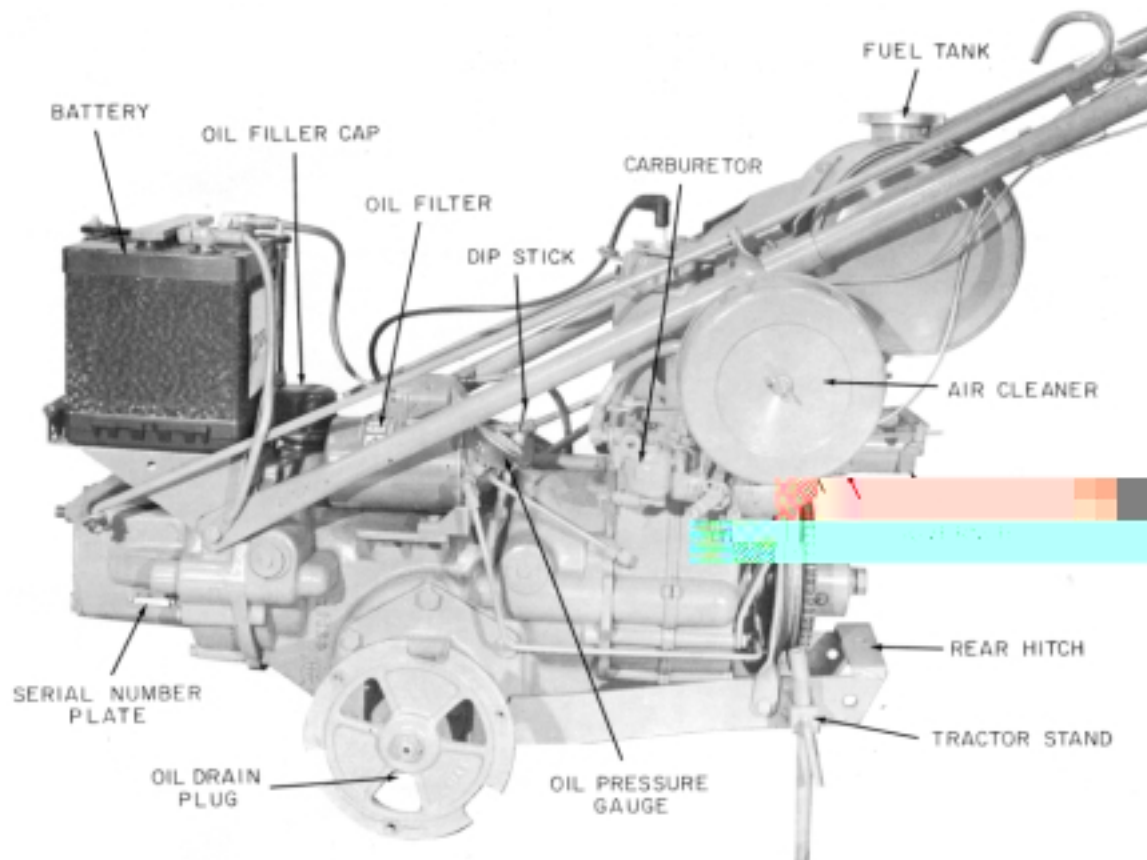

Figure 5
**Oil Level** - Regularly check the oil level with the Dipstick (figure 5) before starting. Be sure the tractor is level.
**Add oil** - Add oil by removing the Oil Filler Cap (Figure 5). Stop when the oil reaches the FULL mark on the dipstick. (Allow time for the oil to drain down prior to checking. This prevents overfilling.)